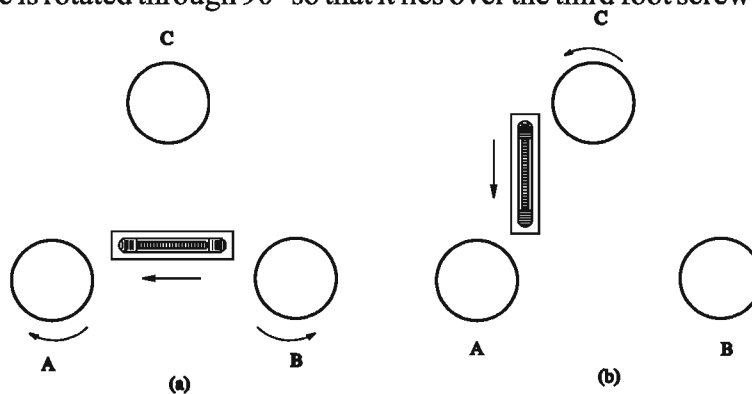

Fig. 6.15 LEVELLING WITH FOOT SCREWS
- i) The bubble tube is kept parallel to any two foot screws. The two foot screws are turned both inwards or both outwards until the bubble is central as shown in Fig 6.15(a). The bubble will move in the direction of movement of the left thumb.
- ii) The telescope is rotated through  $90^\circ$  so that it lies over the third foot screw Fig 6.15 (b)